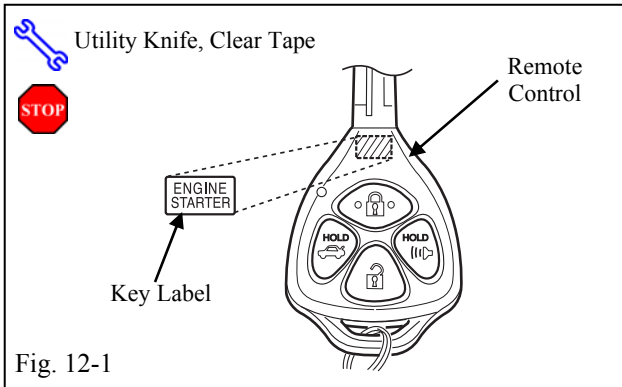
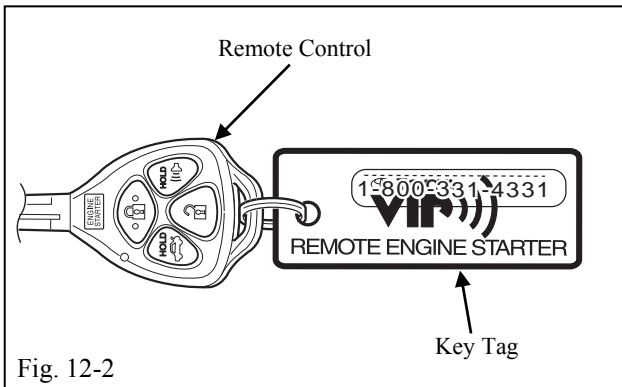

Fig. 12-1
Fig. 12-2
- (1) Use a utility knife, to cut a slit in each bag.
- Using VDC approved cleaner and Cleaning Method, clean the area indicated on the Remote Controls. (Fig. 12-1)
- Attach the Key Labels to the Remote Controls as shown. (Fig. 12-1)
- (1) Use a piece of the clean adhesive tape to lift the labels off their protective backing.
- Attach the Remote Engine Starter Key Tags to the Remote Controls. (Fig. 12-2)